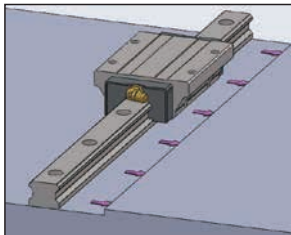

Fig 1.11.7 Holding an Linear Guide rail against the Reference Surface
(B) Gently place a Linear Guide rail on the base, and temporarily tighten the bolts so that the rail lightly contacts the mounting surface. Hold the line marked side of the Linear Guide rail against the base-side reference surface (Fig 1.11.7)